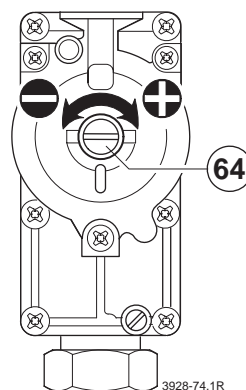

Fig. 43
- ▶ Remove the seal from the gas valve adjusting screw (64) and adjust the CO2 level to the figure given in Table 14 for min. rated heat output. Refer to fig. 43.